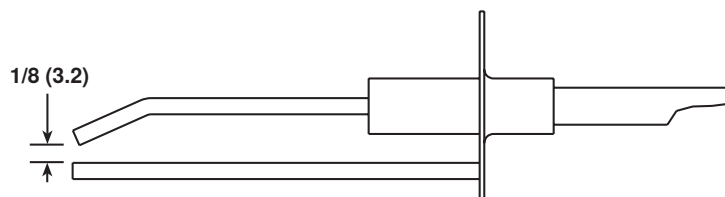

Figure 18. Ignitor Spark Gap
- For the ignitor (see Figure 15 for location), disconnect the wire and remove the screw and ignitor. Clean the ignitor assembly with an emery cloth before reinstalling. The spark gap (see Figure 18) must be maintained to 1/8 inch (3.2 mm).